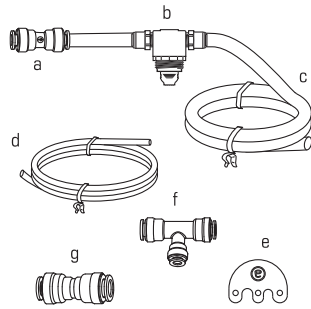

Fig. 24
3. Review bag labeled CXV3645, which contains components used with NON-eSpring installations (Fig. 24).
**NOTE: The supplied components (Fig. 24) must be used between the valve at the water supply and the eSpring Carbon Water Treatment System.**